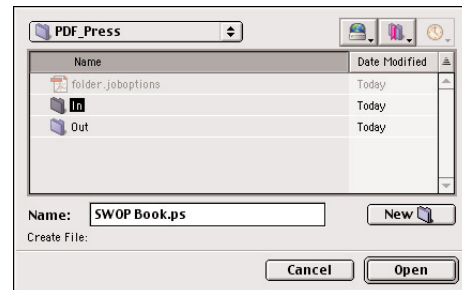

Figure 3-9
**When printing to file:** (Figure 3-9)